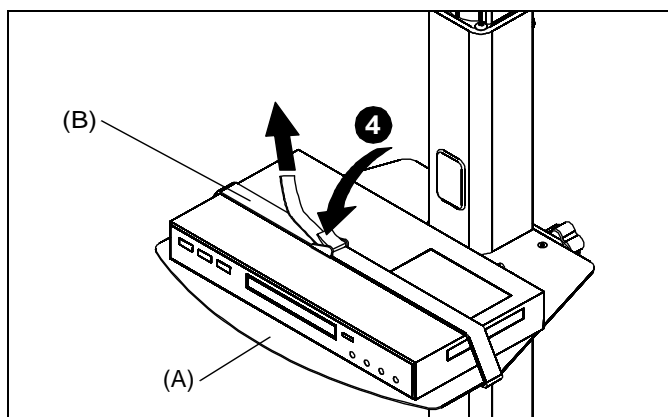

Figure 9
4. Pull strap (B) until tight around equipment and press clasp closed to secure. (See Figure 9)